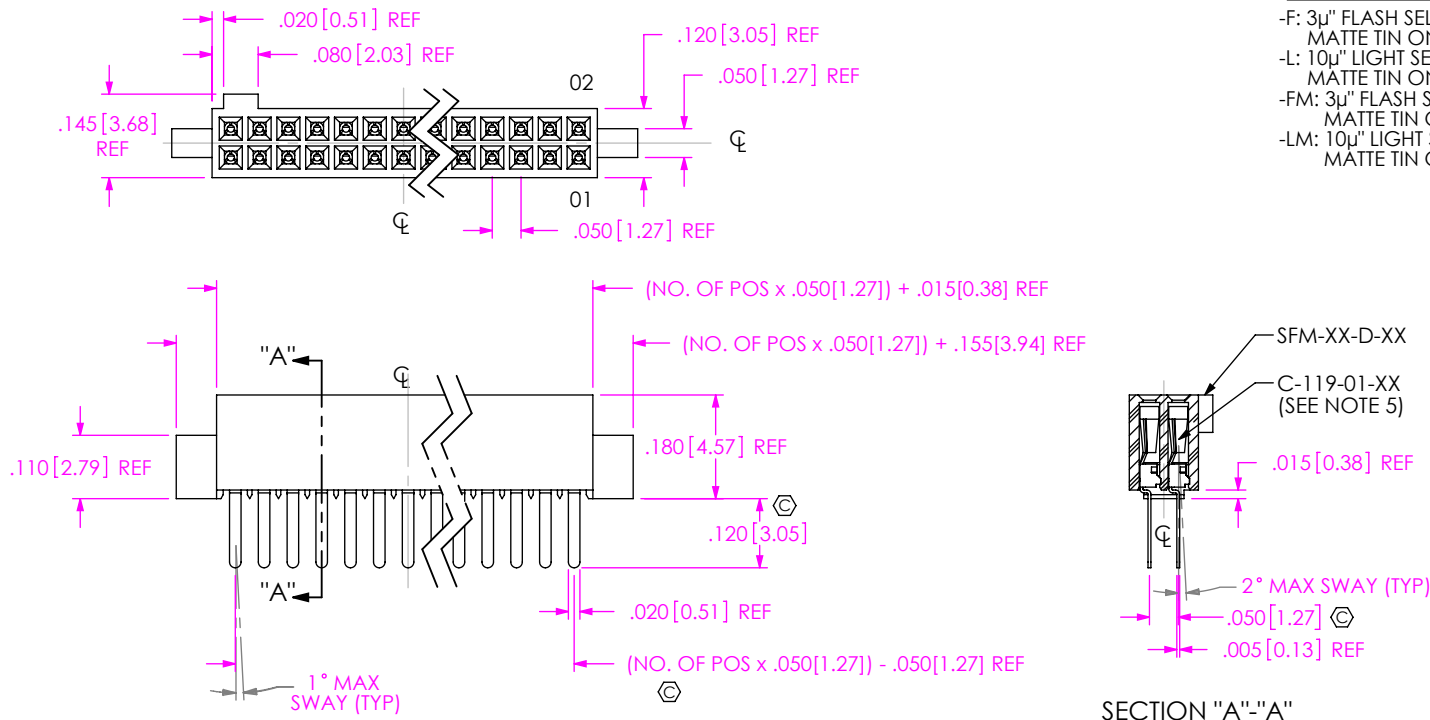

FIG 1 THROUGH HOLE/STRAIGHT MODIFIED
-T1: THROUGH HOLE (SEE FIG. 1, SHT. 1)
(SAME AS FIG 1, DIFFERENT AS SHOWN)